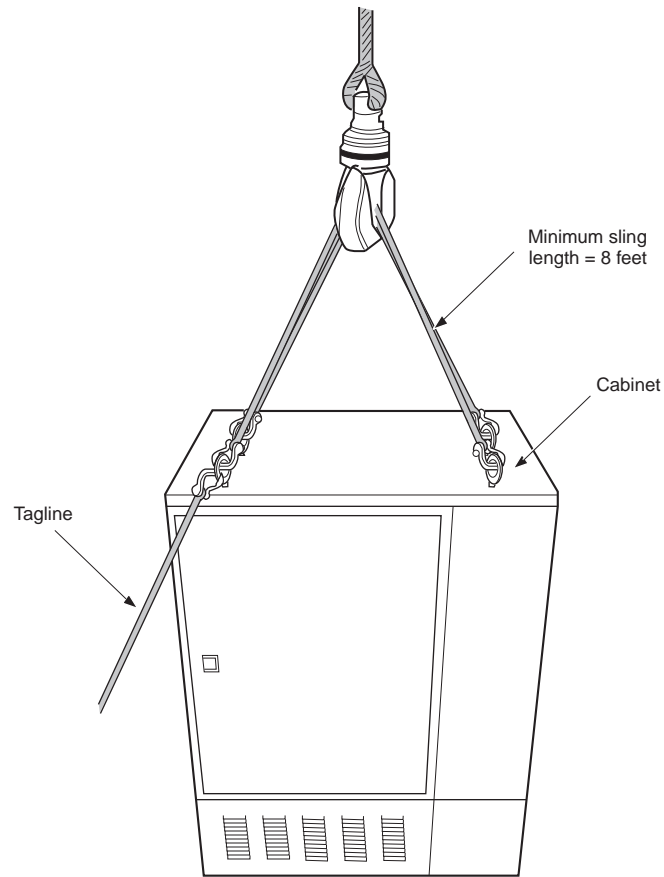

Figure 8. Sling Inserted in Eyebolts
- 2 Insert the cable sling securely through both eyebolts, as shown in Figure 8 on page 13; take up the cable slack with the crane.